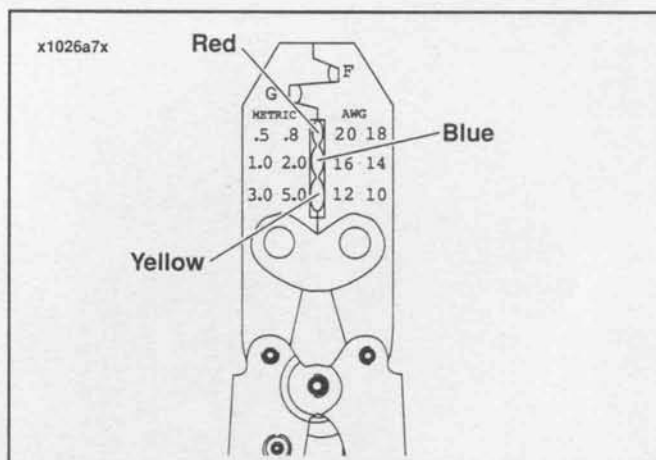

Figure A-14. Packard Crimp Tool (HD-38125-8)
4. Determine the correct dye or nest for the crimping operation. Match the color or gauge wire marked on the butt splice connector with the corresponding crimp cavity on the crimp tool. See Figure A-14.